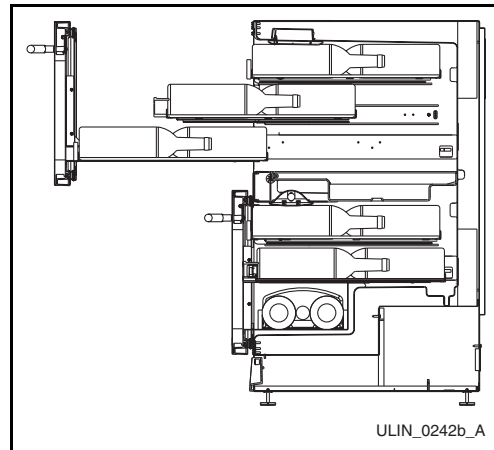

Figure 8
1. The bottom drawer should be stocked first. Open the drawer, and beginning at the back of the lowest rack work forward, staggering the bottles as shown (**Figure 8**).